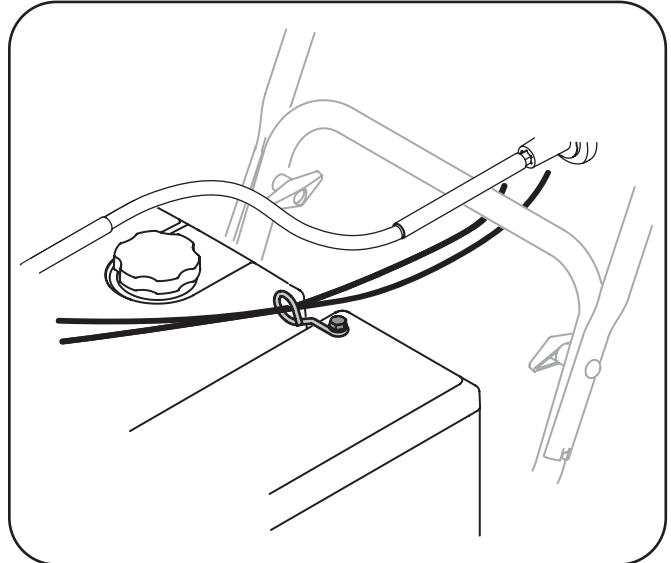

**Figure 3-10**
9. Check that all cables are properly routed through the cable guide on the right side of the chute crank rod. See Figure 3-10.